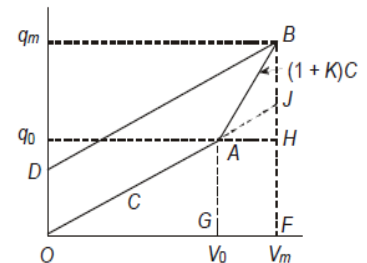

Fig. 5.3 Charge-Voltage diagram of corona.
3. Derive the expression $P_c = \frac{1}{2}KC(V_m^2 - V_0^2)$ for the energy loss from the charge-voltage diagram. Fig 5.3